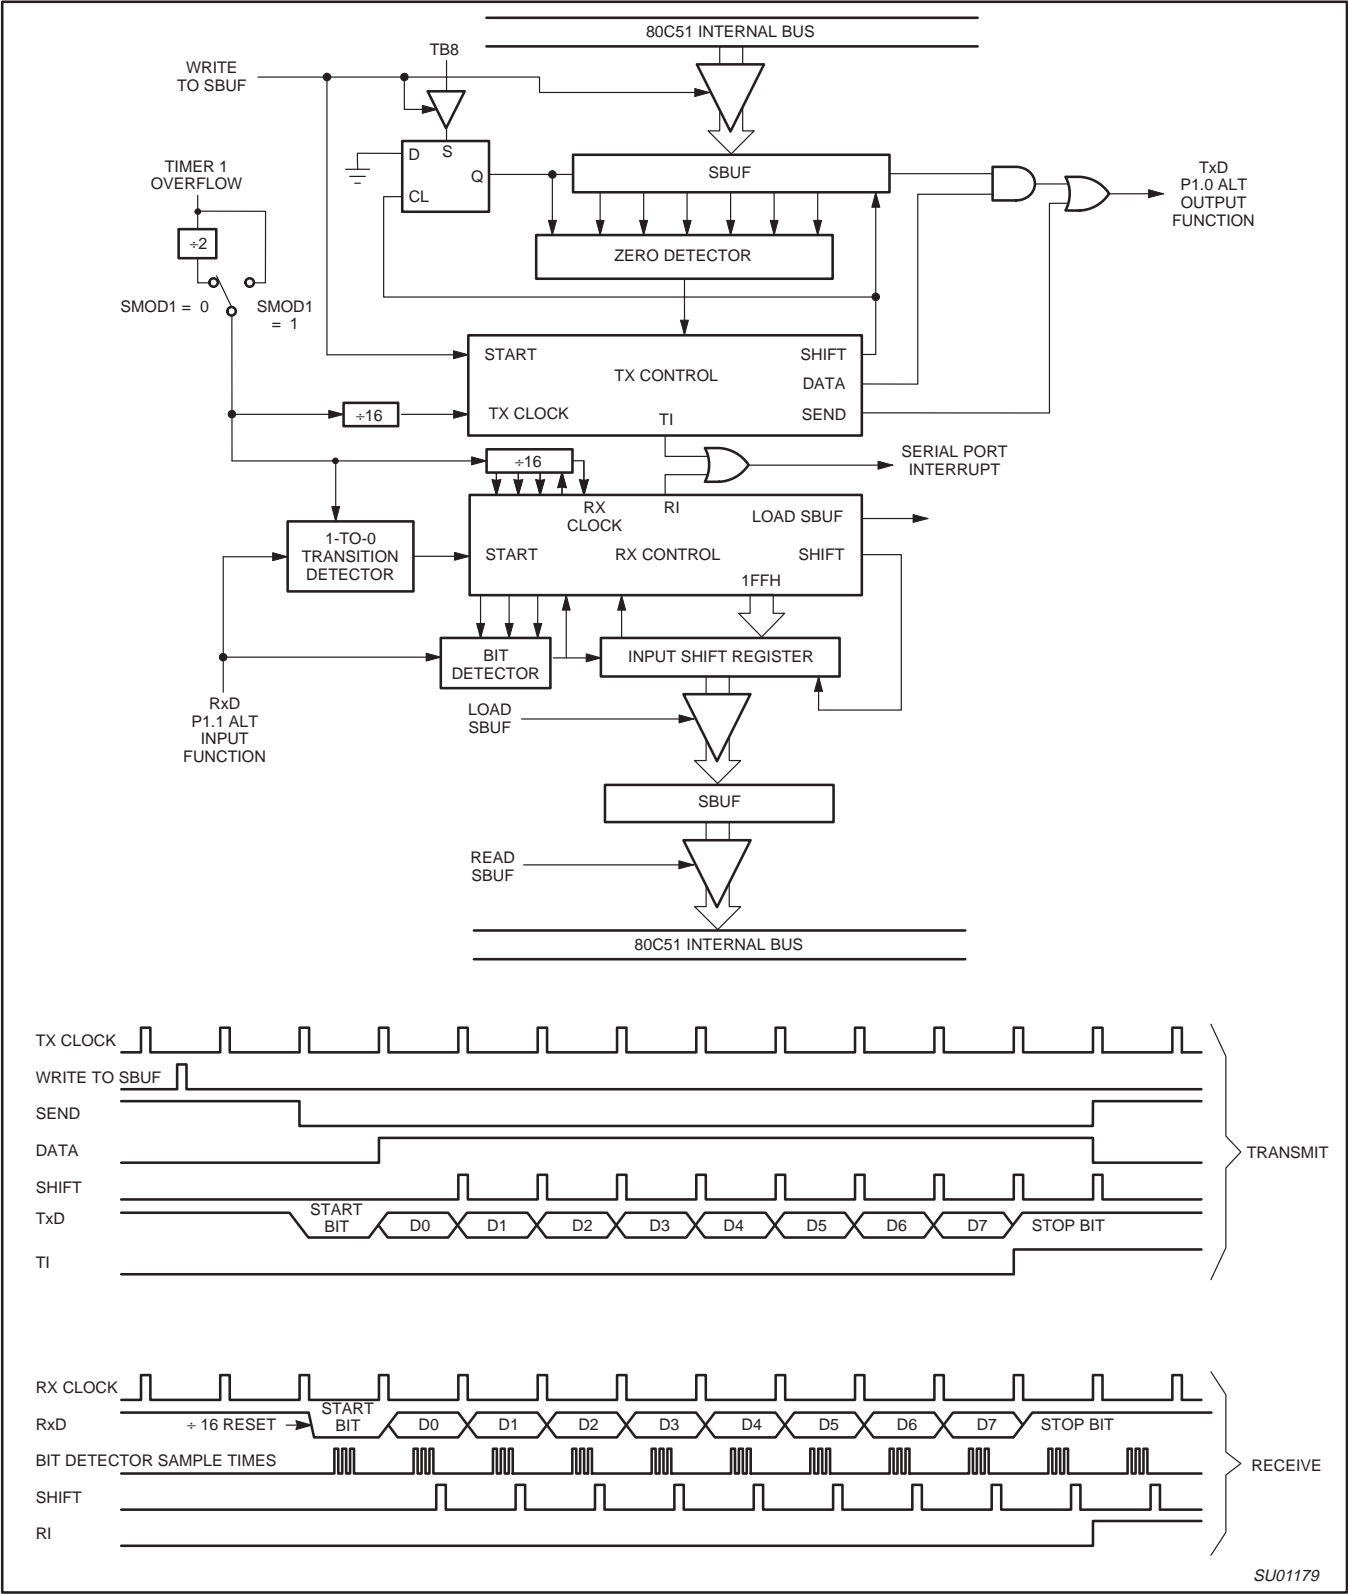

Figure 33. Serial Port Mode 1
Ten bits are transmitted (through TxD), or received (through RxD): a start bit (0), 8 data bits (LSB first), and a stop bit (1). On receive, the stop bit goes into RB8 in SCON. In the P87LPC768 the baud rate is determined by the Timer 1 overflow rate. Figure 33 shows a simplified functional diagram of the serial port in Mode 1, and associated timings for transmit receive.